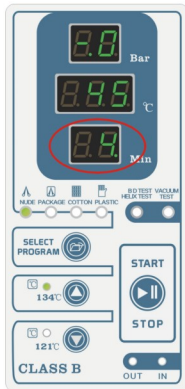

Fig. 8.4-2
(2) **First times Pre-vacuum stage:** when the temperature over than 40°C, the sterilizer will start to do vacuum and the control system will open the vacuum pump solenoid valve (Ev4). time display window show “4” , the “pressure display window” show “-.0” , the “temperature display window” show “temperature in chamber” . “Time display window show 4,3,2,1” means vacuum working time countdown, if within 4 minutes, the vacuum value of less than Pv (factory default setting Pv=-0.80bar) value, there will be alarm E12 or the vacuum value reaches Pv value in advance, sterilization program into heating stage in advance. (Fig.8.4-2)
(5) **Second times Pre-vacuum stage:** when the pressure down to 0.0bar, the sterilizer will start to do vacuum and the control system will open the vacuum pump solenoid valve(Ev4). time display window show “4” , the “pressure display window” show “-.0” ,the “temperature display window” show “temperature in chamber” . “Time display window show 4,3,2,1” means vacuum working time countdown, if within 4 minutes, the vacuum value reaches -0.7bar value in advance, sterilization program into heating stage in advance.(Fig.8.4-2)
(8) **third times Pre-vacuum stage:** when the pressure down to 0.0bar, the sterilizer will start to do vacuum and the control system will open the vacuum pump solenoid valve(Ev4). time display window show “4” , the “pressure display window” show “-.0” ,the “temperature display window” show “temperature in chamber” . “Time display window show 4,3,2,1” means vacuum working time countdown, if within 4 minutes, the vacuum value reaches -0.7bar value in advance, sterilization program into heating stage in advance.(Fig.8.4-2)